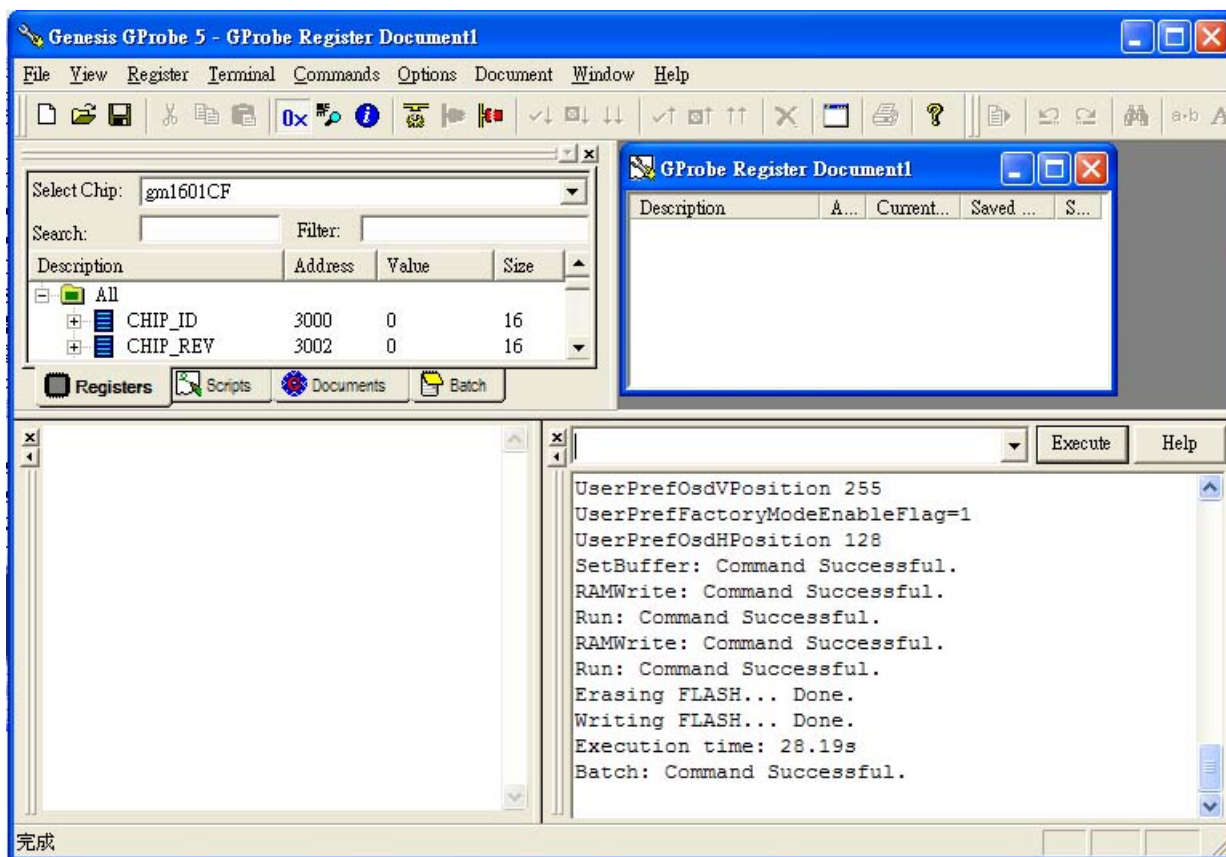

Fig. 1.4
- 1.7 After click the “Execute” button, you will see the terminal information in Fig. 1.4 . When the message “Batch: command successful” is shown, the flash progress is completed.